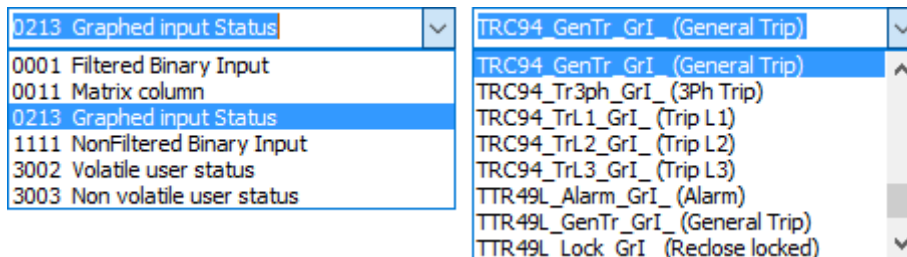

Figure 0-25 Details of the "Object property" window for fast relay contacts under On Item name.
- **On Item name** Means the selection of a signal, the 1 state of which results in continuous ON state of the LED. See the selection method on Figure 0-25.
- **Blink Item name** Means the selection of an output signal, the 1 state of which results in the blinking state of the LED. See the selection method on Figure 0-25.
The left side of Figure 0-25 lists the available signal types:
- "On Item name" identifies the binary signal to operate the relay. Any internal signal can be selected from the dropdown menu. The user must select these signals first by the signal type according to (Figure 0-25 left side) then the selected signal itself (Figure 0-25 right side).